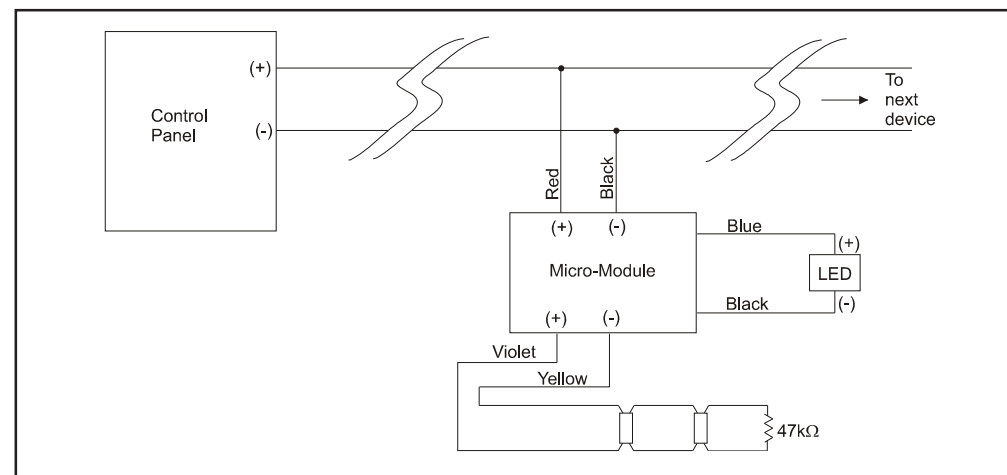

Figure 2. Wiring diagram for M503ME Monitor Module.
1. Install module wiring in accordance with the design drawings and appropriate wiring diagram (see figure 2).